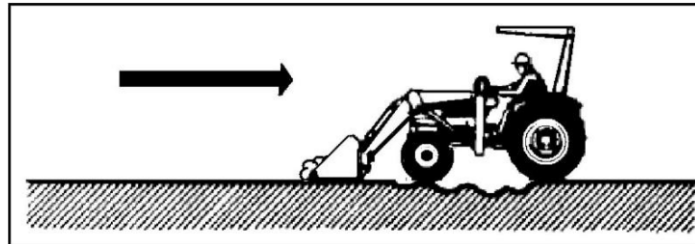

Fig 4.18.Back grading.
- Back grade occasionally with a loaded bucket to keep the working surface free of ruts and holes. Hold the lift control forward in FLOAT POSITION so that full weight of the bucket is scraping the ground. Use only the heel of the bucket while back grading shown in figure 4.18.